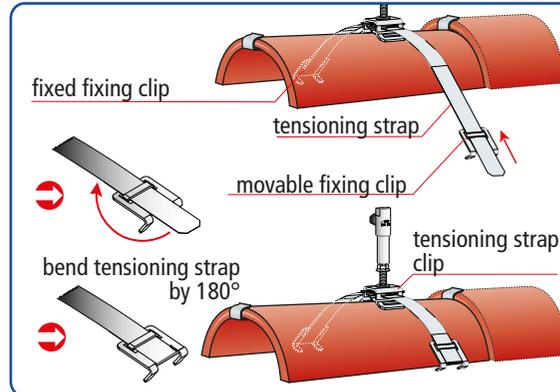

Fig. 2
- ➔ Slide the second fixing clip to the lower edge of the ridge tile and adjust it. The tensioning strap must be hand-tight. It is now bent around the fixing clip by 180°. Snap the second fixing clip into the ridge tile (see Fig. 2).